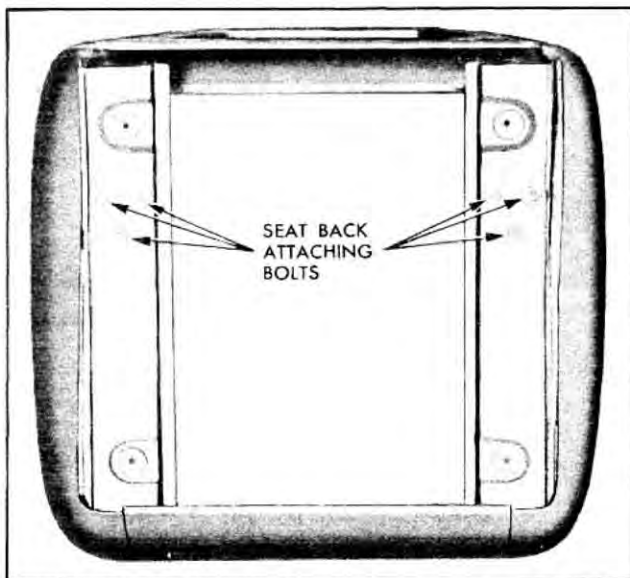

Fig. 17 Seat Back Attachment
2. Remove seat back frame to seat frame attaching bolts and remove seat back assembly from seat. (Fig. 17)